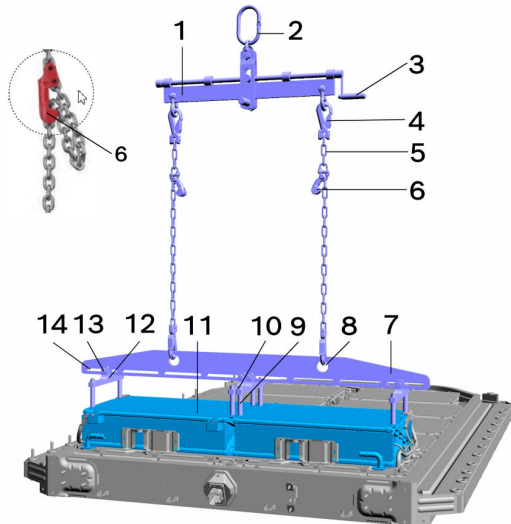

Figure 7: Lifting a Pair of Battery Modules
2. Use the shortening clutches (6) to adjust the length of the chain slings (5) as shown in Figure 7.